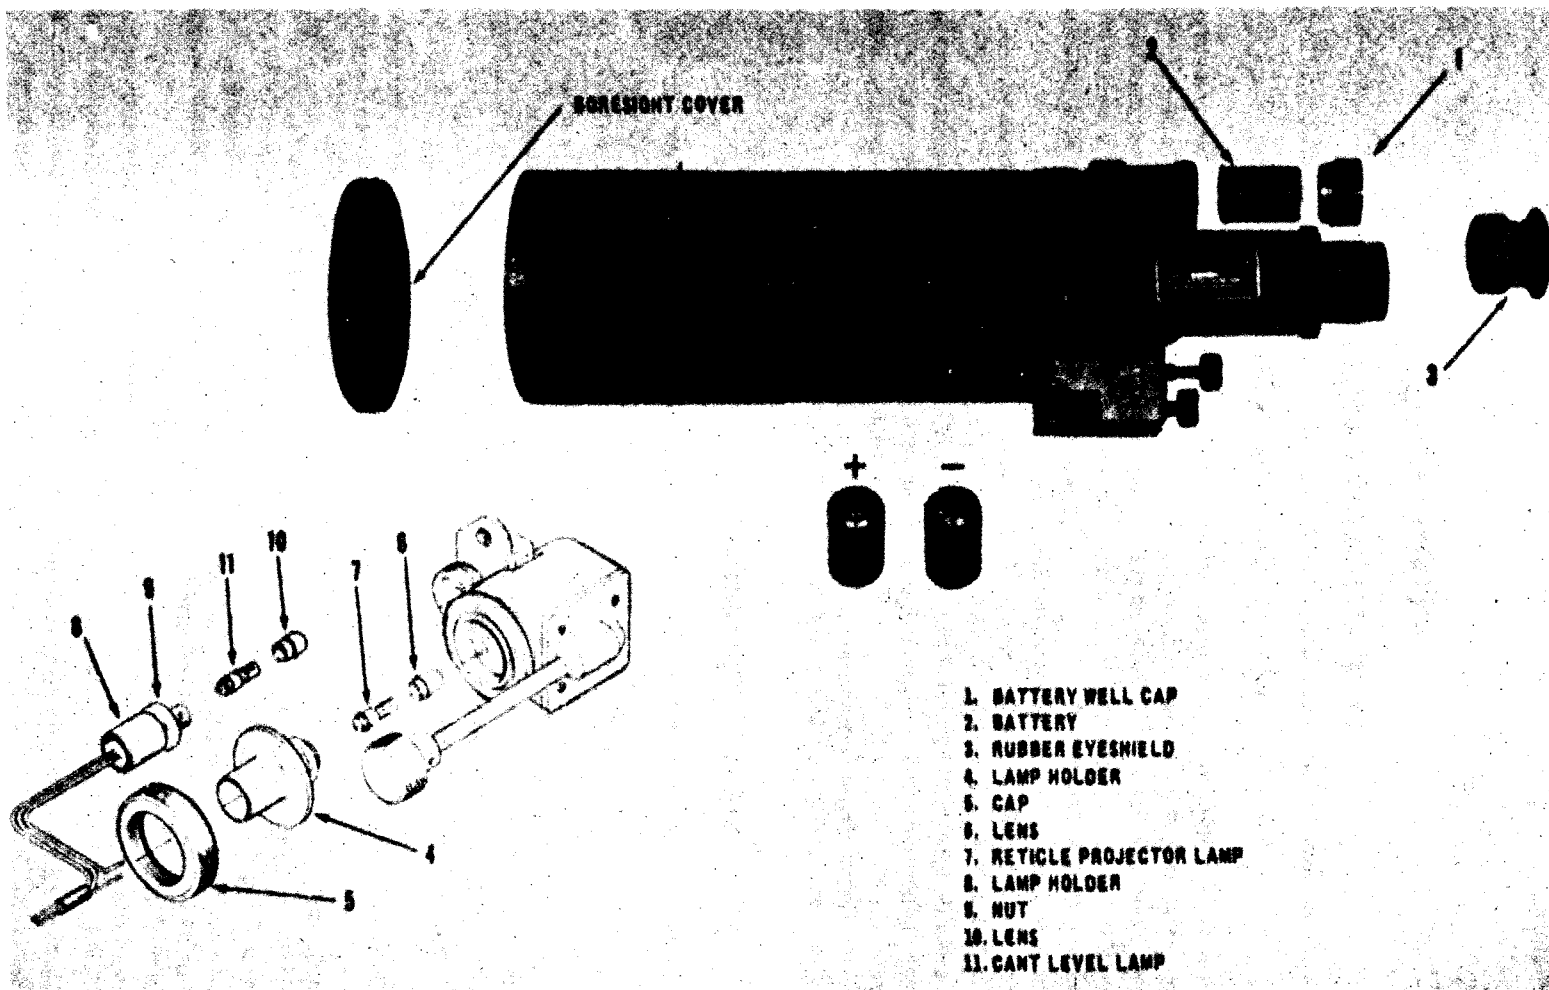

Figure 3. Disassembly.
#### **9. Disassembly.** *a. Battery (Fig 3).*
- (1) Place switch in OFF position.
- (2) Remove battery cap from the battery housing by turning in a counterclockwise direction (1).
- (3) Remove battery (2).
*b. Rubber Eyeshield (Fig 3).* The rubber eyeshield (3) is removed by forcefully pulling it from the eyepiece assembly.
*c. Reticule Lamp (Fig 3).*
- (1) Remove boresight cover.
- (2) Remove lamp holder (4) by unscrewing cap (5) from reticule projector housing.
- (3) Unscrew lens (6) from lamp holder.
- (4) Remove lamp (7).
- d. Cant Level Lamp (Fig 3).*
- (1) Remove lamp holder (8) by unscrewing nut (9) from level assembly.
- (2) Unscrew lens (10) from lamp holder.
- (3) Remove lamp (11).